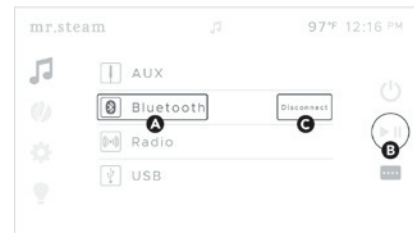

Figure 16
4. A list of available playback devices will appear (**Figure 16**). Tap the desired device (**A**), and then tap the **PLAY** icon (**B**). To disconnect an active Bluetooth device, tap the **DISCONNECT** button (**C**).